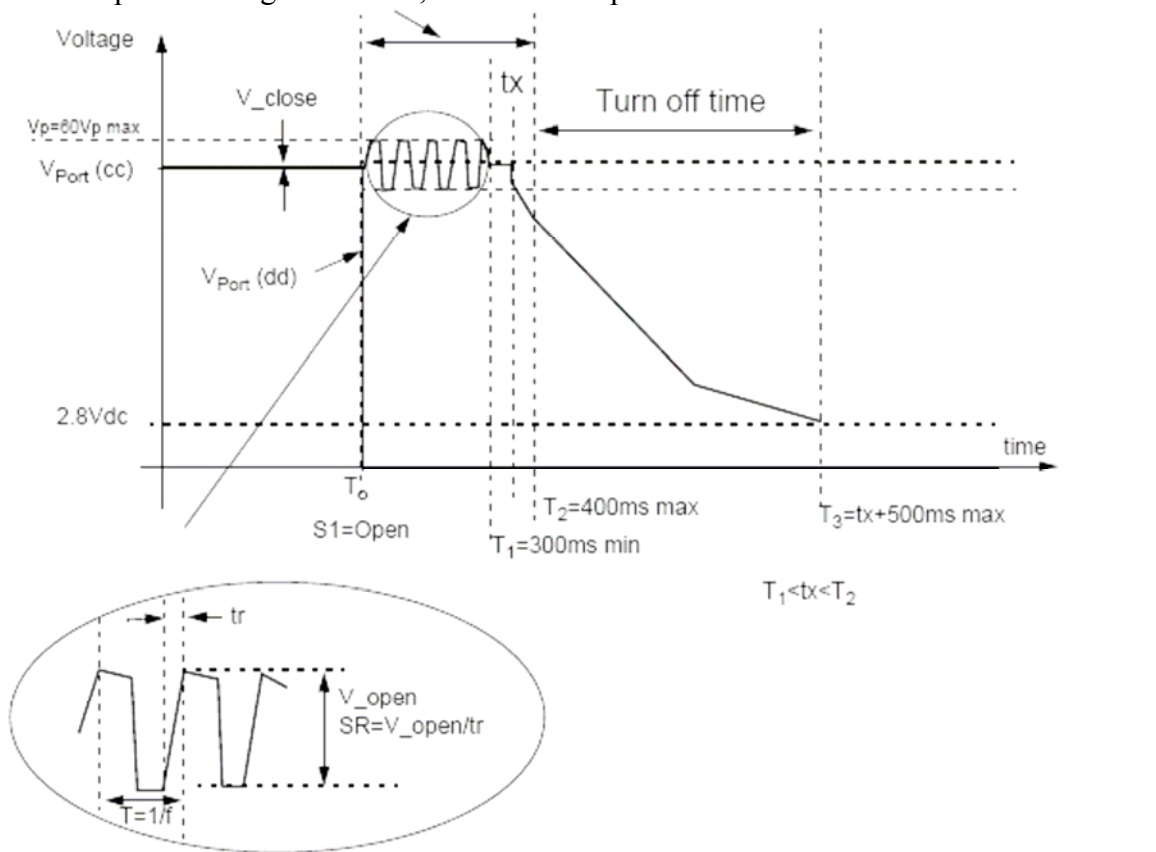

Figure 33C.15
**Discussion:** Once power has been applied to the link segment, the PSE must monitor this segment for the PD's Maintain Power Signature, and remove power if it detects that the PD has been disconnected. To perform this detection, the PSE may monitor the AC MPS component, the DC MPS component, or both signature components. This test is designed to verify that a PSE that monitors the AC MPS component meets the disconnect detection timing and PI voltages as specified in Item 3 of Table 33-6, which is printed here for convenience. These parameters can be measured as depicted in Figure 33C.15, which is also printed here for convenience.